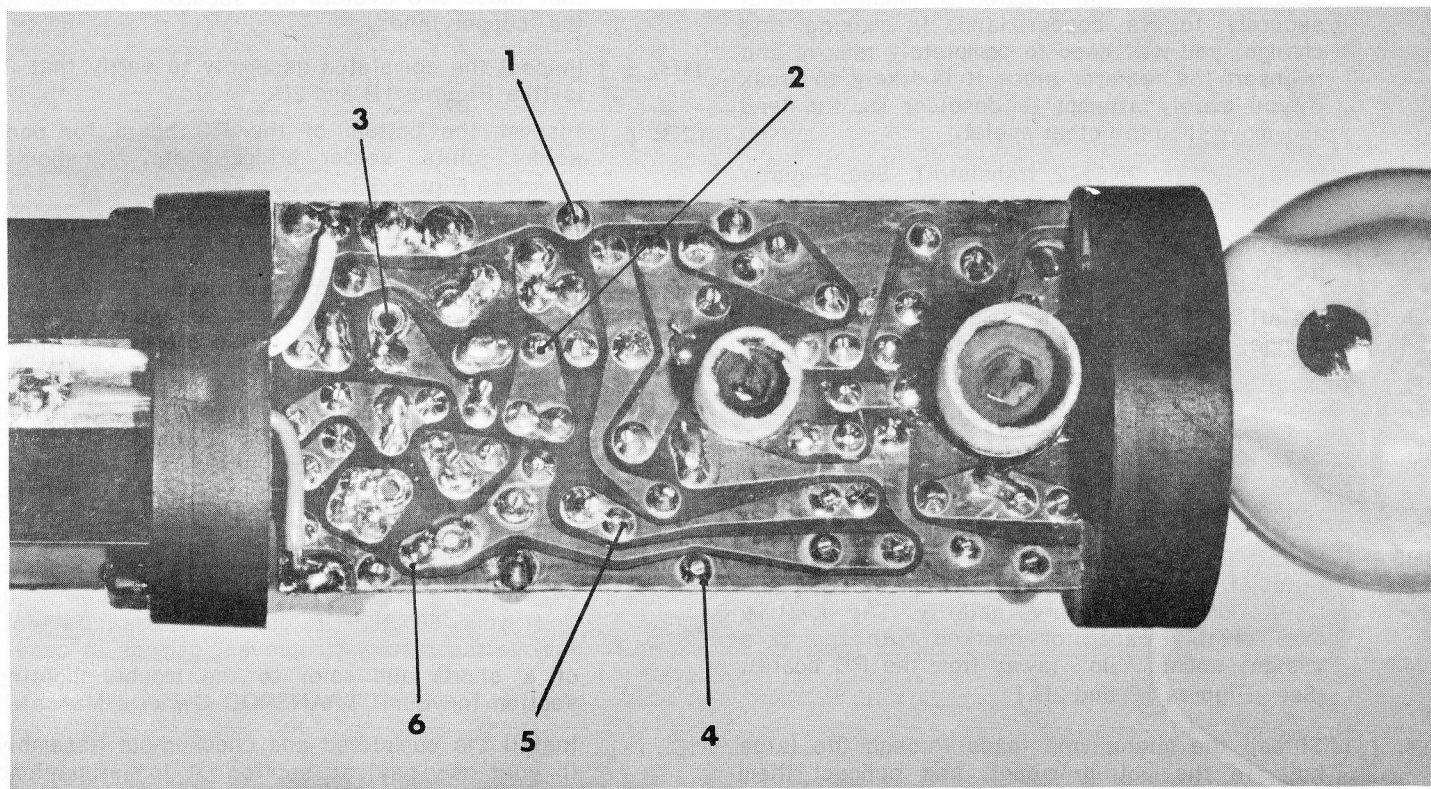

FIG. 3A BOTTOM VIEW, "A" CONFIG. TRANSROC, MIC. MODE
- 10A. () Inspect the bottom of the PC board for poor solder joints, solder bridges, etc. It should look like Figure 3A.